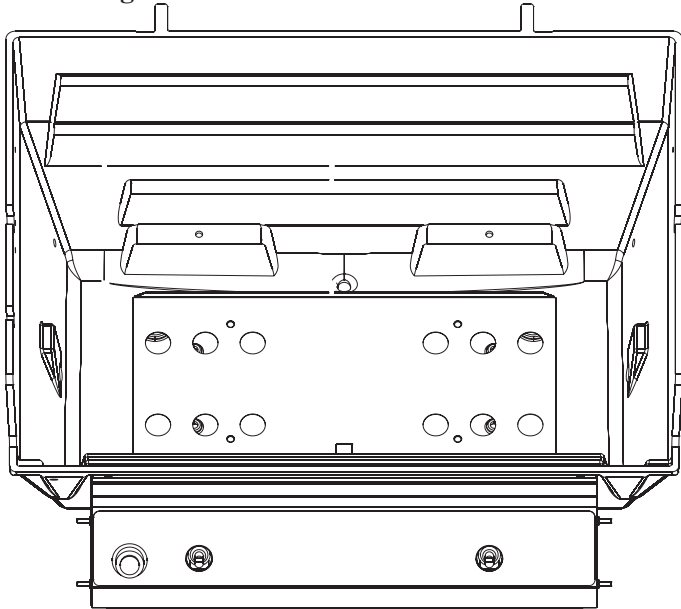

Figure 1
2. Place radiation shield (13) (flange side up) onto four raised bosses located on the interior bottom of the grill. See Figure 1.